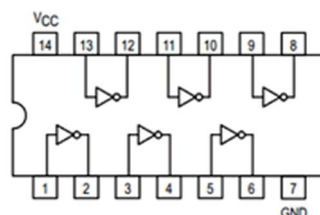

Fig 1.2: 74LS04 Inverter IC pin configuration
In order to implement the NOT gate operation using IC, the TTL 74LS04 IC can be used. This IC contains six inverters. It has 14pin Dual Inline Package (DIP) configuration as shown in Fig 1.2. The power supply connections are made to pin 7 and 14. This supply the operating voltage for all six NOT gates on the IC. Pin 1 is identified by a small indented circle next to it or by a notch cut out between pin 1 and 14.
- Pin Assignments for the ICs have been shown in fig 1.2